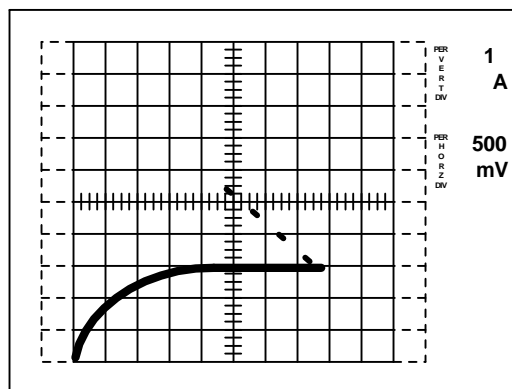

Figure 7. Drain-source resistance, pulsed mode
15. Connect the device using the LEFT/RIGHT switch and raise the VARIABLE COLLECTOR SUPPLY voltage until the desired value of drain current is obtained. $R_{DS(on)}$ is obtained from the trace by reading the peak values of current and voltage (see Figures 7 and 8).